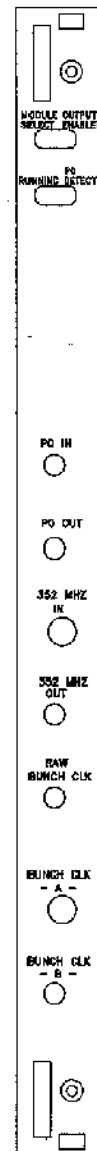

Fig. 1
The bunch clock generator (BCG) was designed and built by the ASD Controls Group for the APS Users (Fig. 1). It provides precise timing pulses for individual bunches of interest in the stored beam structure. These timing pulses are referenced to the storage ring (SR) revolution clock signals (P0) and the 351.8 MHz (352 MHz) rf signal from the low level rf (LLRF) system. The BCG100 module outputs can be adjusted in order to allow the User to vary the timing to reflect the position of a particular bunch of interest relative to P0, as well as to the physical location of the Users' experiment around the SR. This P0 signal originates in the main control room (MCR) as part of the Control "Master Timing System." The origin of the 352 MHz signal is the LLRF system. It is also distributed through the MCR as a part of the Control "Master Timing System."